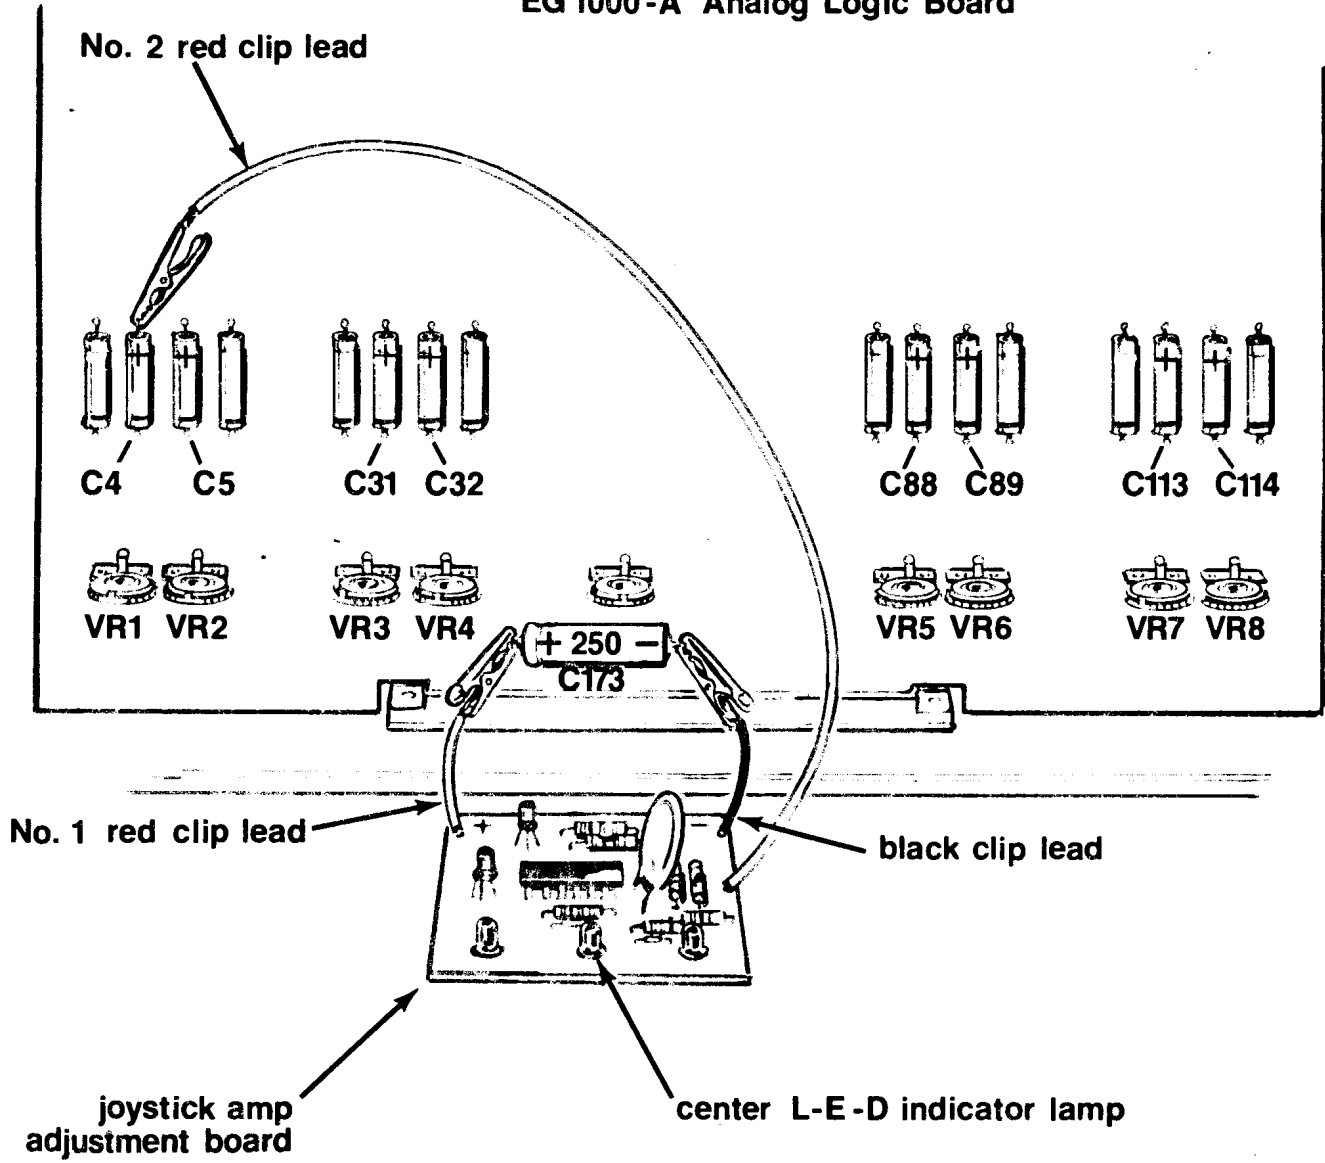

Figure 10 Joystick Amplifier Adjustment
Joystick Amplifier Adjustment - Refer to Figure 10 for the following. The "Joystick" Amplifier Adjustment is factory set and normally require readjustment only when the the EG1000-A Analog Board is changed, or if any of the "Joysticks" are replaced. There are two controls for each car. The controls adjust the voltage at the output of the "Joystick" Amplifiers. The purpose of the adjustment is to minimize drift of each car in the vertical and horizontal direction when the "joystick" is in the upright "rest" position, and to standardize the speed of the cars. The adjustment is relatively simple, when using the "Joystick" Amp Adjustment Board", which is available from your distributor.
- 3) Observing correct polarity, connect the Black and #1 Red clip leads to C173, 250 mfd capacitor as shown in Figure 10. All adjustments will be made with these leads connected.
- 4) Connect the #2 Red clip lead to the Positive (top) side of C4 (1 mfd capacitor). (See Figure 10.) Adjust VR-1 until the center LED indicator is illuminated.